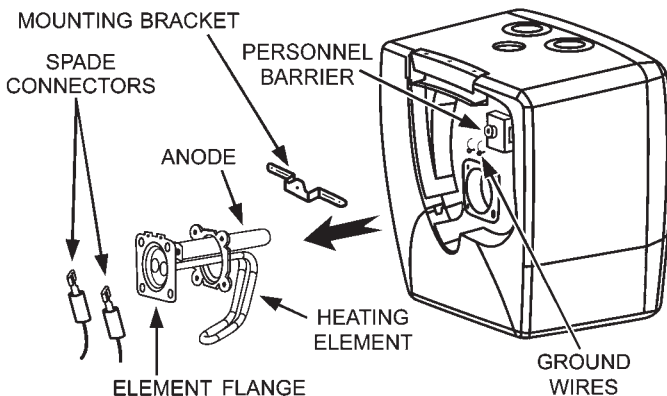

FIGURE 10.
- Remove the two screws from the mounting bracket, see Figure 10, being careful not to drop the screws into the unit, as they will be difficult to retrieve. Remove bracket and set screws aside.
**NOTE: Replacement elements must (1) be the same voltage and (2) no greater wattage than listed on the model rating plate affixed to the water heater.**
17. Replace the mounting bracket with the center rise facing outward and the screw hole up, see Figure 10.